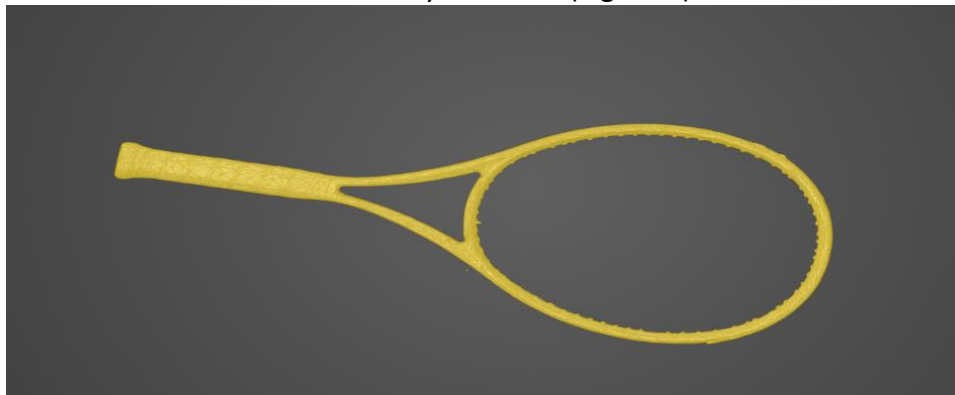

Figure 4: Tennis racket scan data after applying the “Auto Fix” tool
1. Use the “Auto Fix” tool to automatically fix errors (Figure 4).